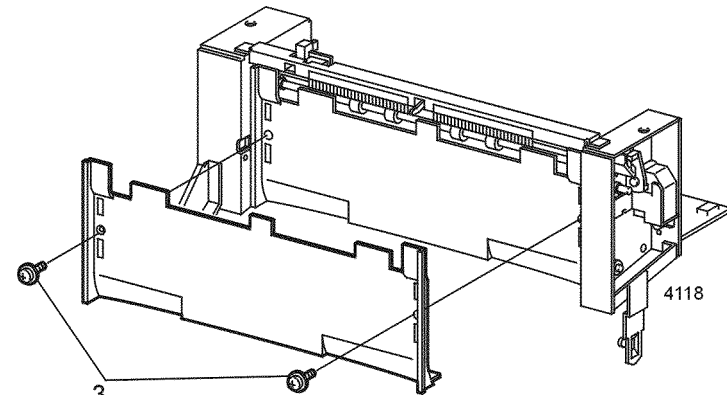

Figure 1 OCT Front Cover
3. Remove the two screws that secure the Front Cover (Figure 1). Remove the cover.